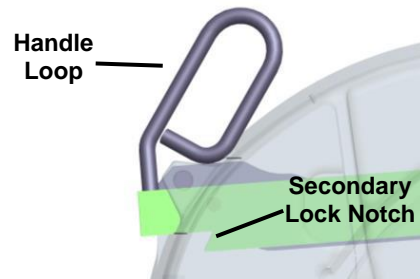

FIGURE 4
- A. The secondary lock notch is behind the casting skirt (see figure 4).
- B. The release handle loop is adjacent to the casting (see figure 4).